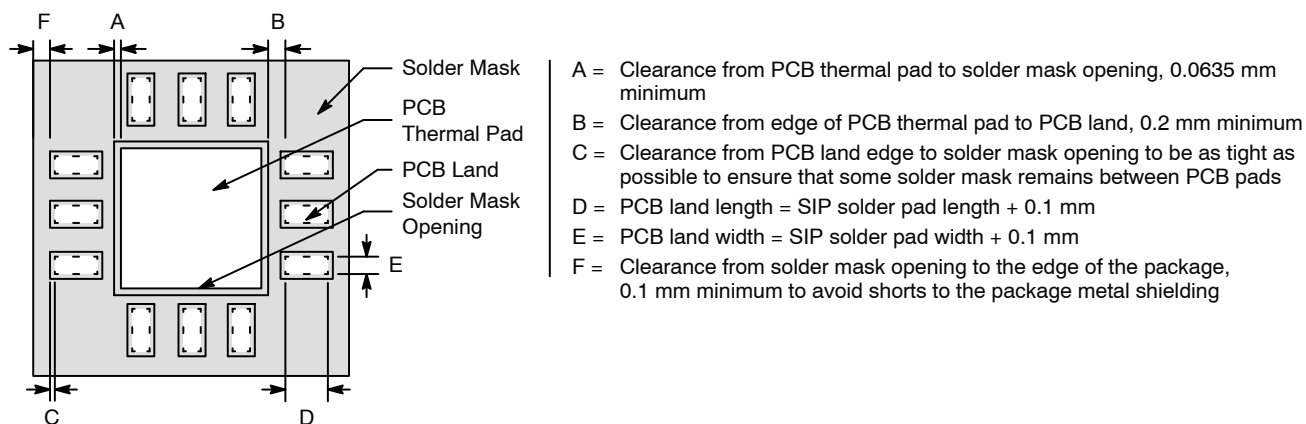

Figure 6. PCB Land and Solder Mask Recommendations
1. PCB footprint and DFM recommendations are shown in Figure 6. *In particular be aware of the spacing “F” to avoid shorting pads to the conductive conformal shield coating the SiP.*